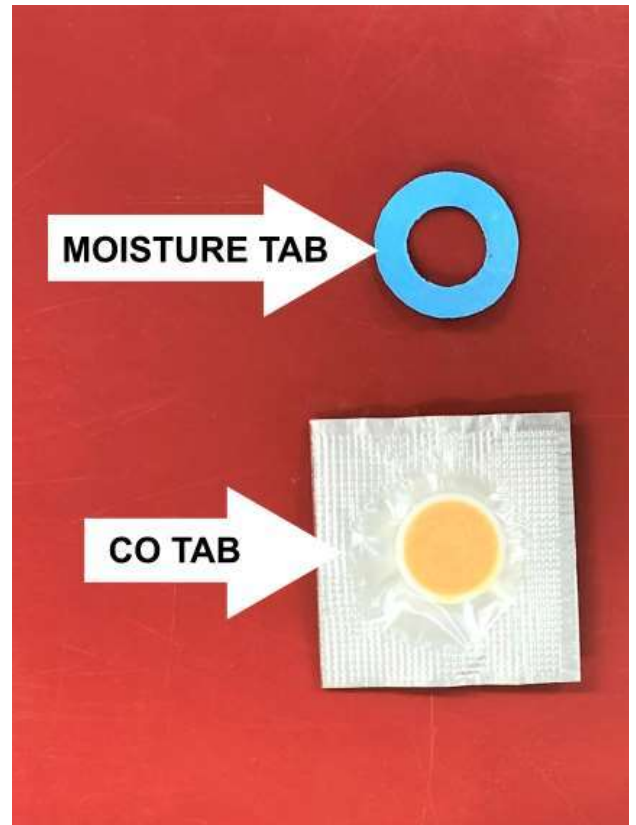

Figure 6.12: New CO and Moisture Tabs.
2. Replace with fresh CO and Moisture tabs. (Figure 6.12)